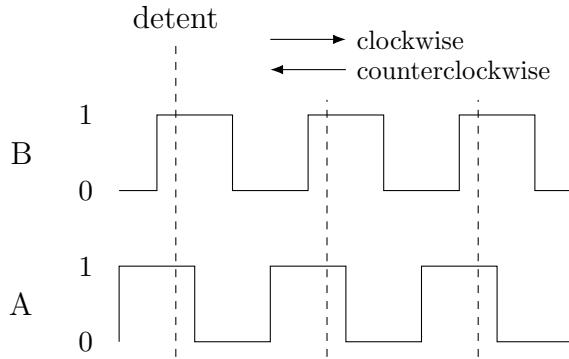
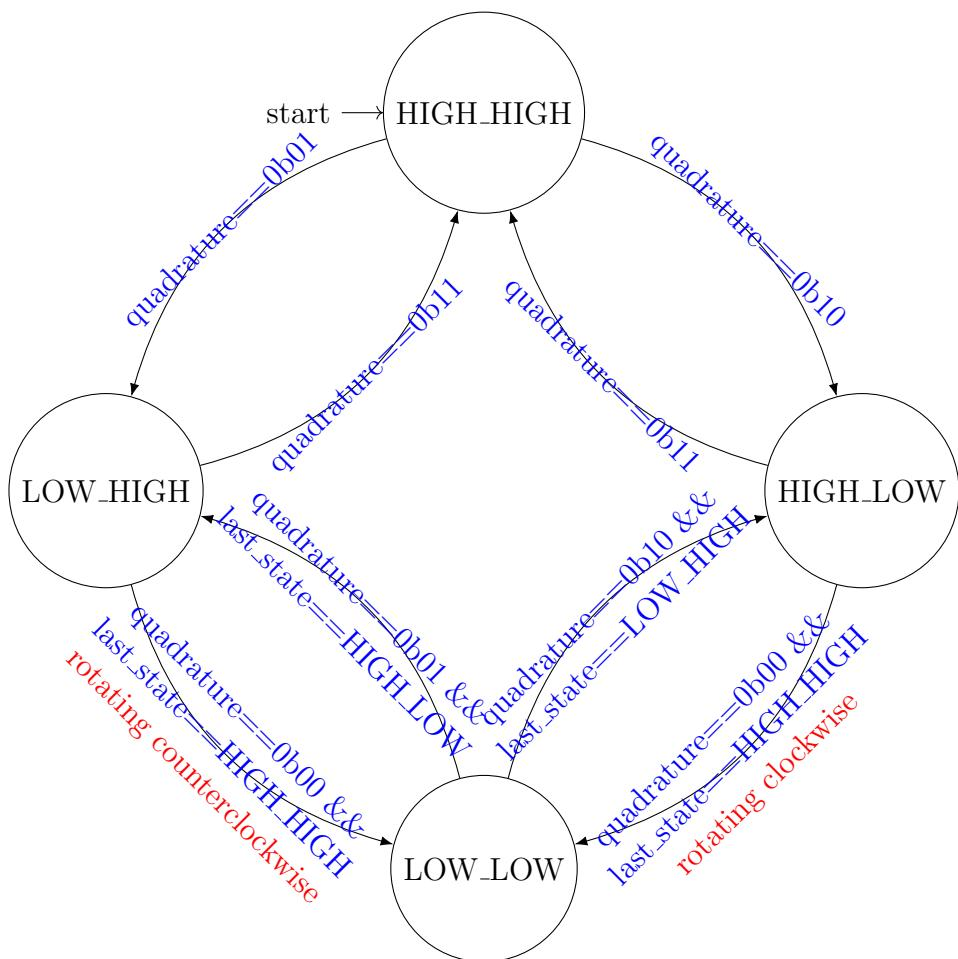

Figure 1: Quadrature encoding of the rotational position in a rotary encoder.
Figure 2: State machine to determine a rotary encoder's direction of rotation.
We will track the movement of the rotary encoder's shaft using the state machine depicted in Figure 2. The convention we will use is that the states are named after the logic values of the quadrature's two components: *B_A*. For example, if the bits returned by `get_quadrature()` are 0b0000'0010 then the state machine should be in state HIGH_LOW.
Locate `HANDLE_QUADRATURE_INTERRUPT()` and examine the state machine depicted in Figure 2. You will implement the state machine in `HANDLE_QUADRATURE_INTERRUPT()`, but first make sure that you understand how the state transitions driven by the quadrature signal in Figure 1 allow us to determine the direction of rotation.
- () Implement the state machine from Figure 2 in `handle_quadrature_interrupt()`.